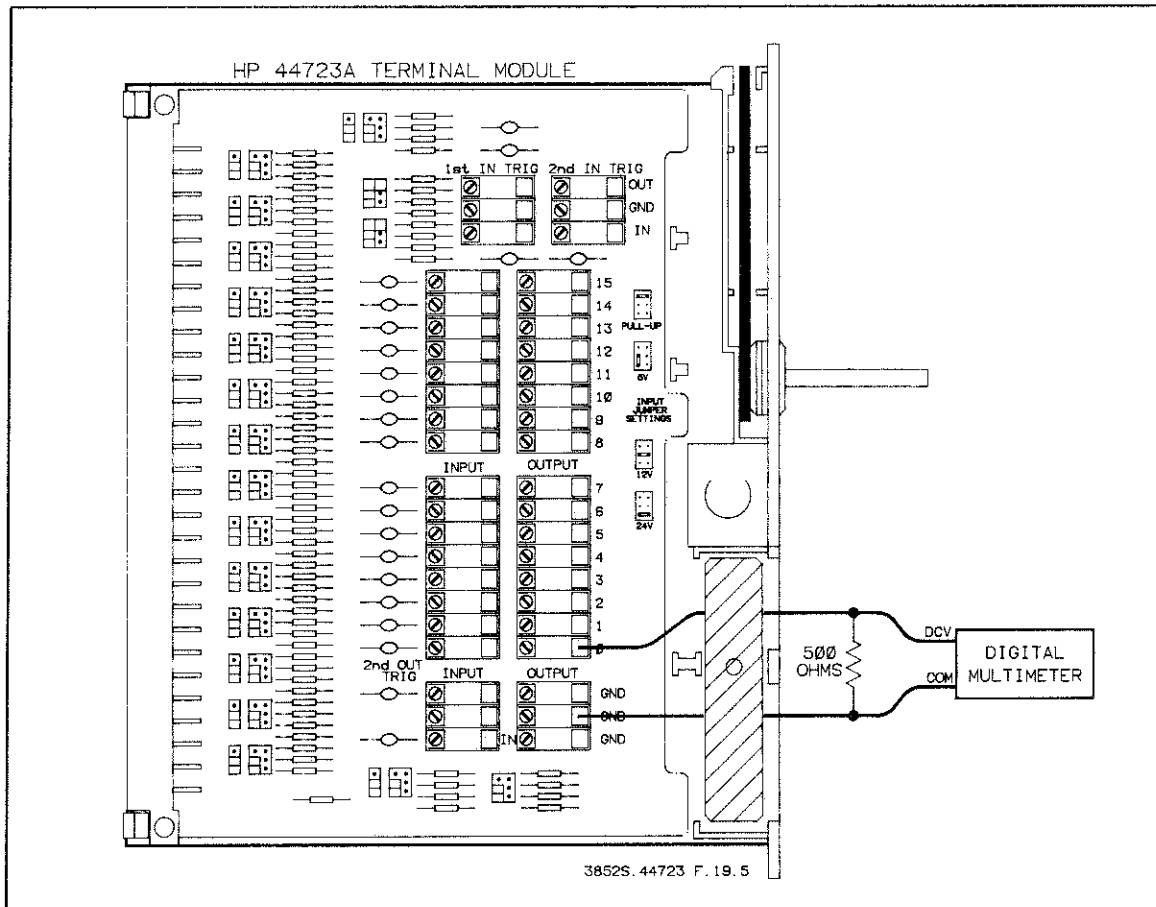

Figure 19-5 Output Driver Test
2. Make sure the output jumpers on the terminal module are selected for TTL outputs on all channels (see Figure 19-5).
4. Refer to Figure 19-5. Connect a 500 Ω 1/4 W resistor across the digital multimeter's DCV (HI) and COM (LO) input terminals. Setup the digital multimeter for dc volts and autorange.
5. Connect the digital multimeter's DCV input to the HIGH output terminal of channel 0 on the terminal module. Connect the COM input to GND on the terminal module. The setup is shown in Figure 19-5.
10. Set all channels low (0) by executing: